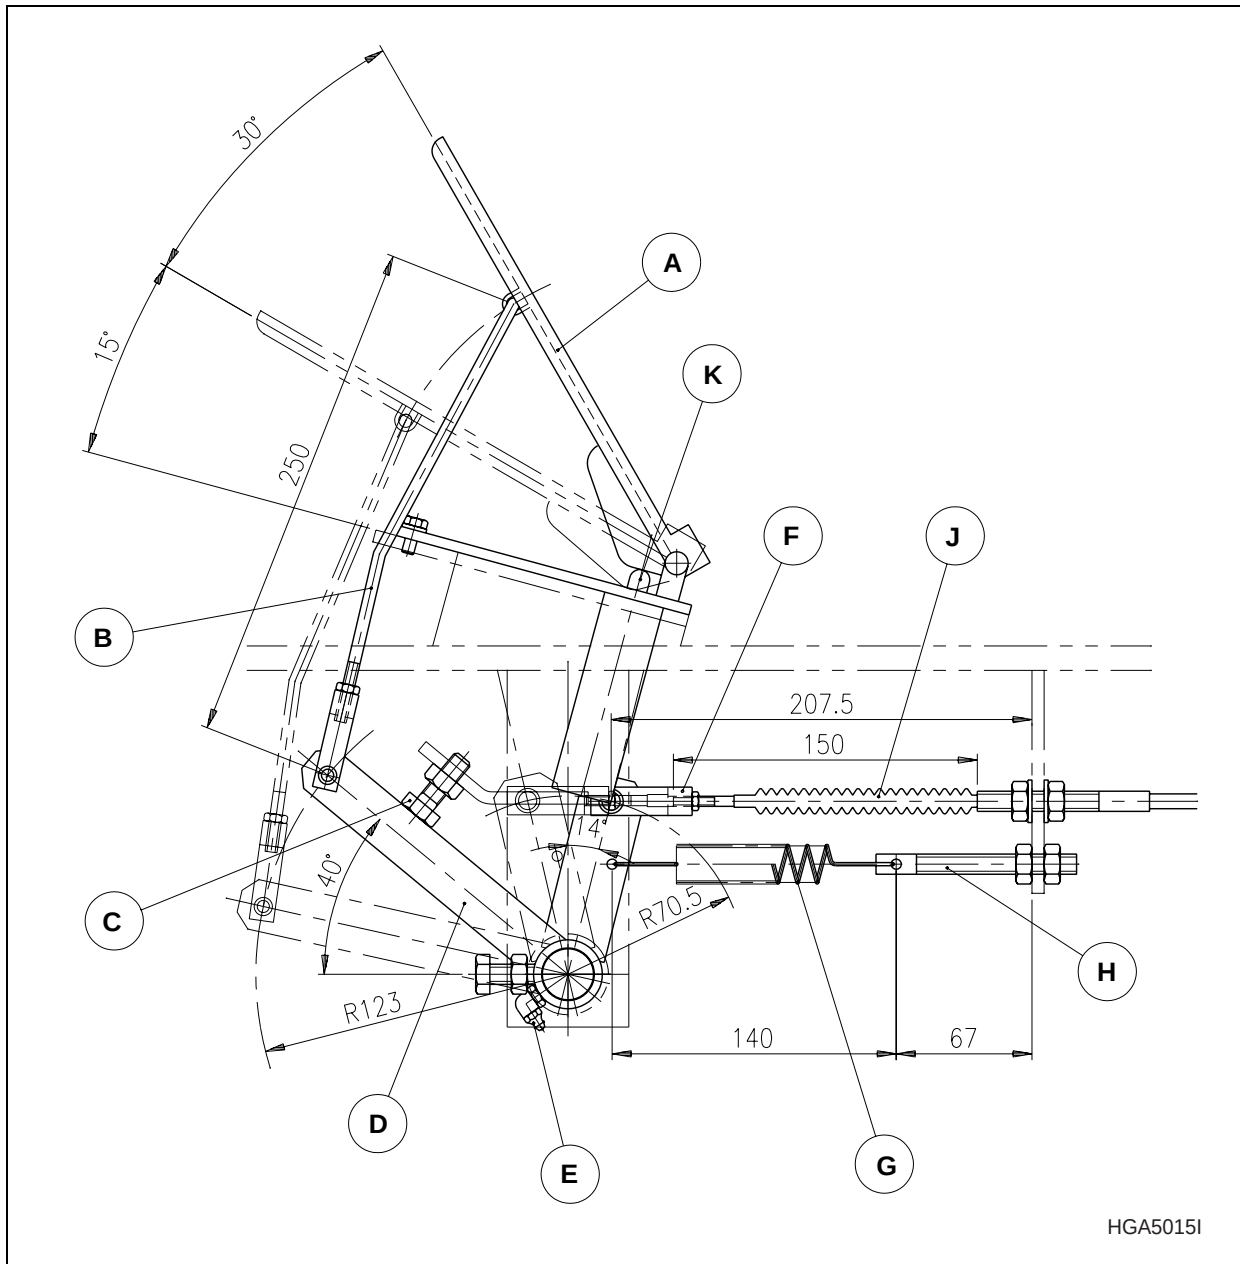
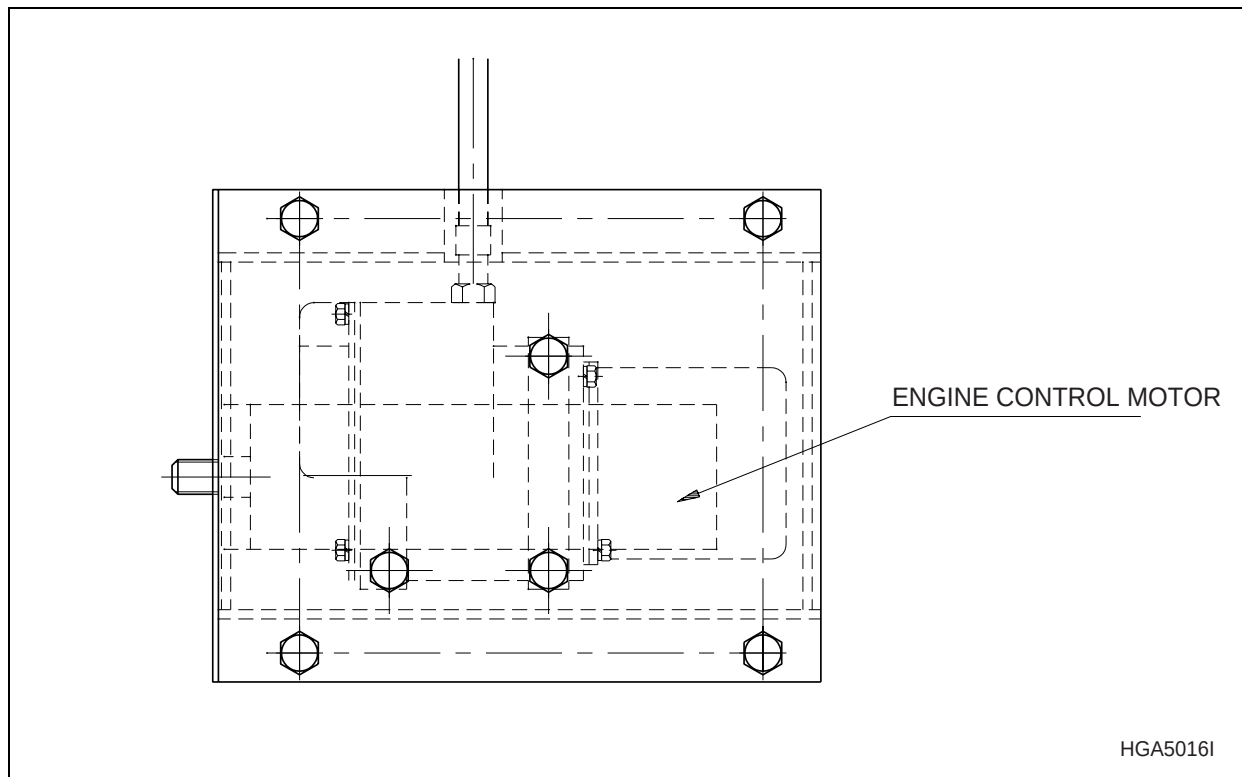
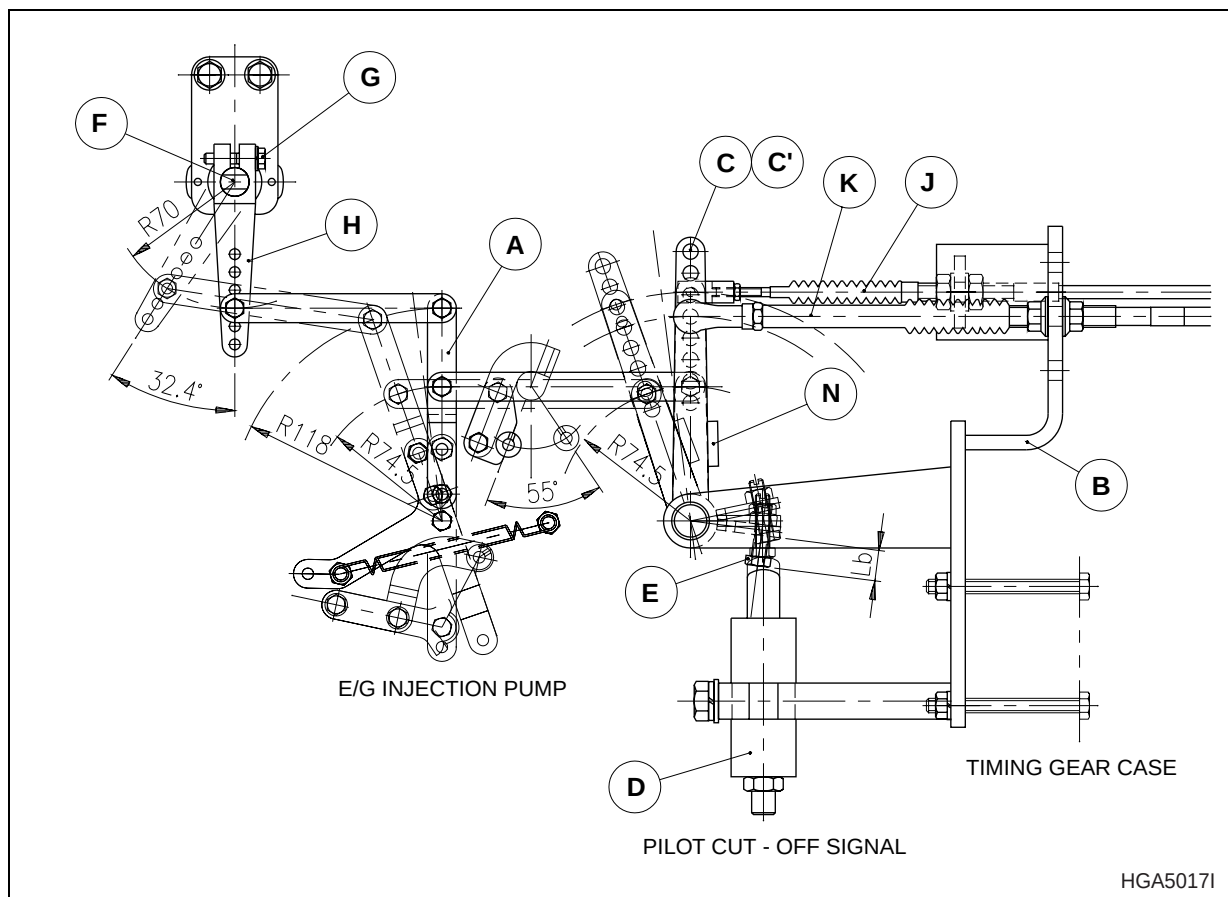

Figure 42
Figure 43
Figure 44
Accelerator Pedal (Refer to Figure 42)
1. Assembled length of rod (B, Figure 42) must be adjusted to 250 mm.
2. With rod (B, Figure 42) adjusted to 250 mm, adjust stop bolt (C) so that pedal (A) touches plunger (K) of run modulation valve.
NOTE: *Make sure that plunger (K , Figure 42) is not being depressed.*
3. After the rod (H, Figure 42) is temporarily assembled to bracket, install spring (G) between lever (D) and rod (H). Adjust the rod (H) to an initial installation length of 67 mm. Spring (G) should be adjusted to a length of 140 mm.
4. Extend cable (J, Figure 42) out of cable sheath 150 mm, attach end of cable to clevis (F, Figure 42). Attach the cable to bracket.
At this time, adjust the insertion depth of cable (J, Figure 42) end into clevis (F). Then adjust cable in bracket so that it is again adjusted to 150 mm.
5. Grease into nipple (E, Figure 42) to ensure proper lubrication.
Engine Control Motor (Refer to Figure 43 and Figure 44)
1. The engine control motor (Figure 43) holds the cable length that was set pulled at maximum when responding to a "HIGH IDLE" position.
2. When installing the motor on frame, be careful not to bend cable, connect it to bracket (B, Figure 44) temporarily with nuts.
Inspection Before Adjustment (Refer to Figure 44)
1. Adjust bolt (E, Figure 44), so that its head is at the minimum height "Lb."
3. Adjust accelerator pedal cable (J, Figure 44) and engine control motor cable (K, Figure 44) using the following method.
- A. Attach cables (J and K, Figure 44) to levers (C) and (C), in the hole positions shown in Figure 44.
- B. Cable (J, Figure 44) has a tendency to hang-up once in a while on the accelerator pedal end. Before attaching cable (J) to bracket (B), pull cable (J) to ensure it is extended all the way. (Do not apply excessive force.)
- C. Attach cables (J and K) to bracket (B) so that levers (C) and (C) touch the stop plate on lever (N). Adjust cables so they do not hang down.
Travel Mode RPM adjustment (Refer to Figure 44)
- B. Adjust the screw part of cable (J, Figure 44) installed on bracket (B, Figure 44) so that lever (A) just touches engine high idle stop.
NOTE: *By adjusting cable (J, Figure 44) at bracket (B, Figure 44) this will ensure that the accelerator pedal is properly depressing plunger (K, Figure 42).*
- B. Check that lever (A, Figure 44) touches the engine low idle stop and the cable's installation position is proper.
- C. If lever (A, Figure 44) does not touch the engine low idle stop this means that there is not enough cable stroke.
- 1) Move the screw part of cable (J, Figure 44) to the left till lever (A, Figure 44) touches the engine low idle stop.
- 2) When fully depressing accelerator pedal, adjust length of rod (B, Figure 42) longer (more than 250mm) so that lever (A, Figure 44) touches the high idle stop.
NOTE: *If length of rod (B, Figure 42) is made excessively long, lever (A, Figure 44) will touch the engine high idle stop before the accelerator pedal (A, Figure 42) fully depresses plunger (K, Figure 42). Check whether the plunger is fully depressed or not.*
- B. Check that plunger (D, Figure 44) of engine speed limiter (pilot cut-off signal) works as work/park/travel select switch is set to "WORK" or "TRAVEL."
5. Rotate shaft (F, Figure 44) so that the TPS voltage value matches the value found on the table and tighten bolt (G).